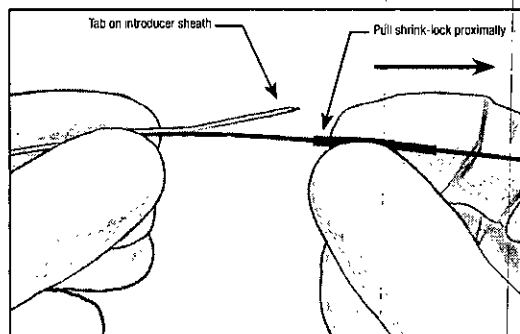

Figure 3 - Pull Shrink Lock Proximally
16. Hold the device just distal to the shrink-lock and pull the shrink-lock proximally to expose the tab on introducer sheath. See Figure 3.